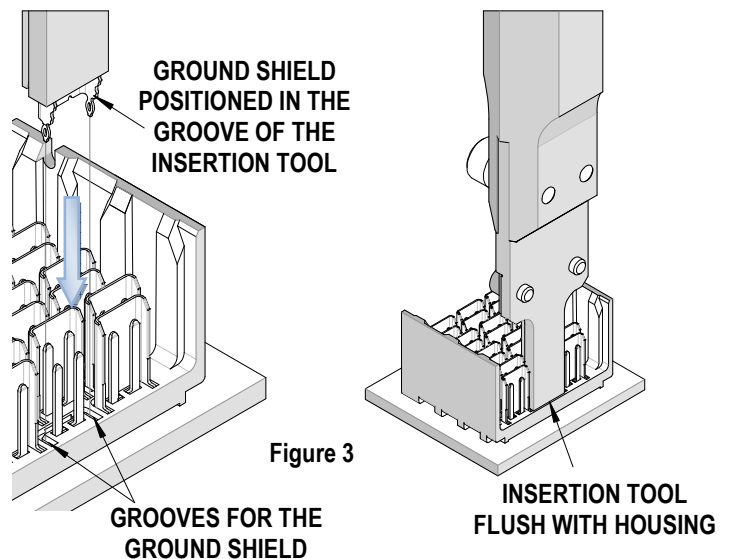

Figure 3
6. There is a clearance groove on the opposite side of the tool. When inserting the ground shield, make sure the tip of the tool is outside the (2) signal contacts at that location.
7. Continue pushing the ground shield until the insertion tool and the ground shield shoulder are seated securely to the inside housing surface. See Figure 3.